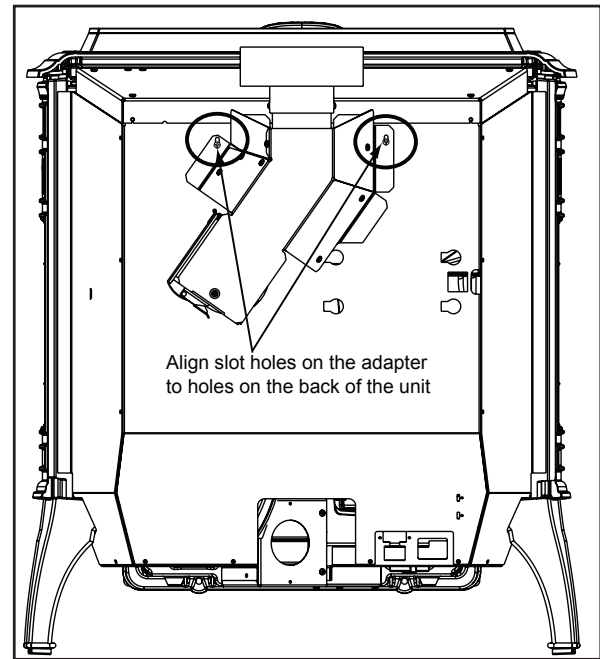

Figure 18.2
3. Align slot on left of adapter with hole in the back of the appliance and secure with screw. You may drill out the hole using #26 drill bit provided but only if needed. **Figure 18.2**
5. Drill 2 holes with #26 drill bit through the rear exhaust outlet using the 2 holes already in the short horizontal pipe in the top vent adapter as a guide. Install the screws. **Figure 18.2**